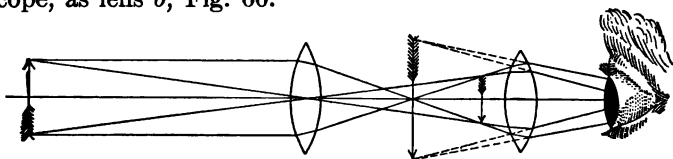

FIG. 66. — Telescope.
5. When the object is between f and the lens no real image is formed, but by looking through the lens a virtual, enlarged image is seen. This is used in the simple microscope and in the reading glass, or the eyepiece in a telescope, as lens b , Fig. 66.